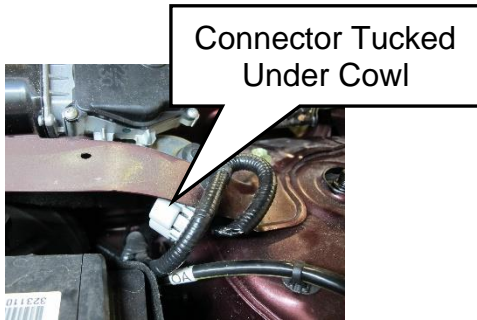

Figure 11
- Tuck the connector under the cowl as shown in Figure 11